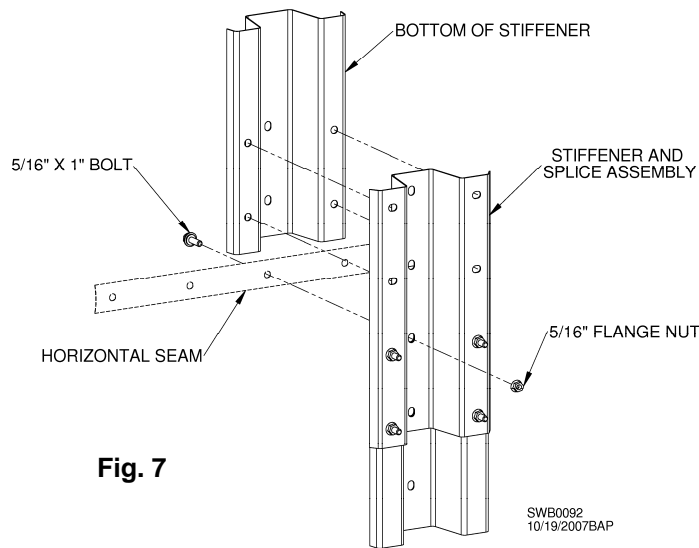

Fig. 7
16. Continue installing sidewall panels until enough rings are in place for installation of next tier of stiffeners. After installing stiffeners, install splices as shown in Fig. 7. **NOTE:** Stiffener splices will straddle horizontal sidewall seams. When attaching stiffeners, ensure that gap between upper and lower stiffener is no more than 1/16".